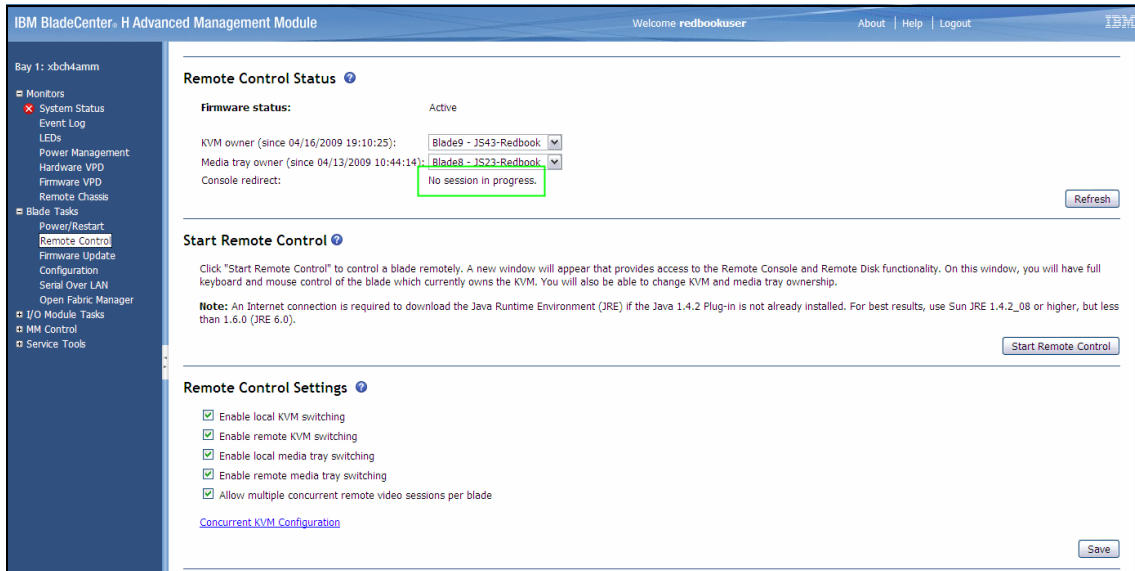

Figure A-4 Blade Remote Control options
3. After successful login you will see the status page of the AMM. This page gives a short overview of the health of the chassis and the blades. Click **Remote Control** in the menu under Blade Tasks, as shown in Figure A-4 on page 499. Verify that there is no remote control session in progress by observing the remote control status. The Refresh button allows to refresh the status. Then scroll down to Start Remote Control.